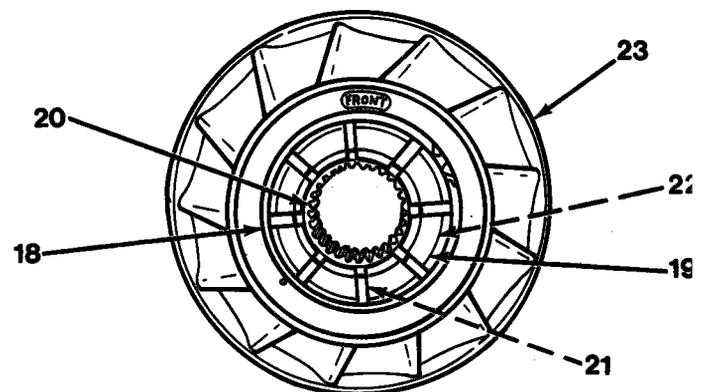

Figure 11-5
4. Install outer clutch race (21), inner clutch race (20), two clutch retainers (19) and sprag clutch assembly (22) as an assembly in stator (23, Figure 11-5).
5. Install two snap rings (18).